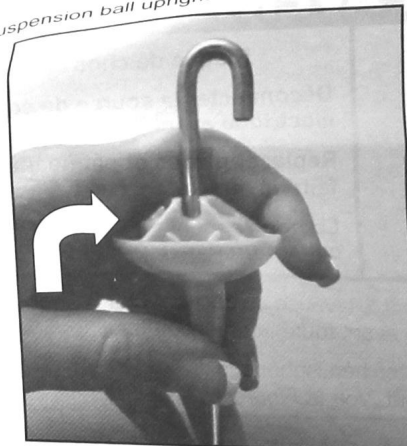

FIGURE 3
4. Flip suspension ball upright. See Figure 3.